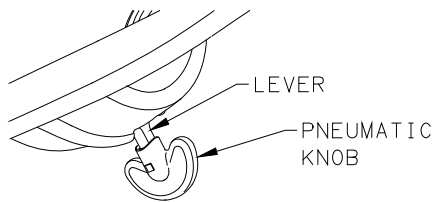

FIGURE 9
5. USING PLIERS TWIST OFF PNEUMATIC KNOB FROM LEVER OF PNEUMATIC CONTROL. PROPERLY DISPOSE OF PNEUMATIC KNOB. SEE FIGURE 9.